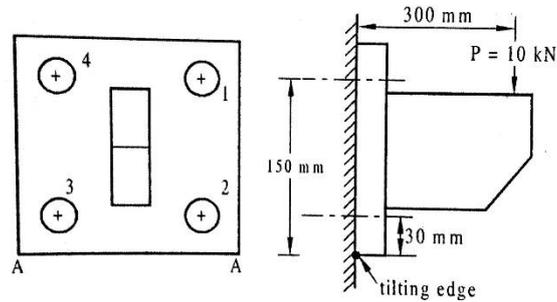

Fig Q9(b)
- b** A bracket is fixed to the wall by means of bolts and loaded as shown in Fig Q9(b). (10 Marks)